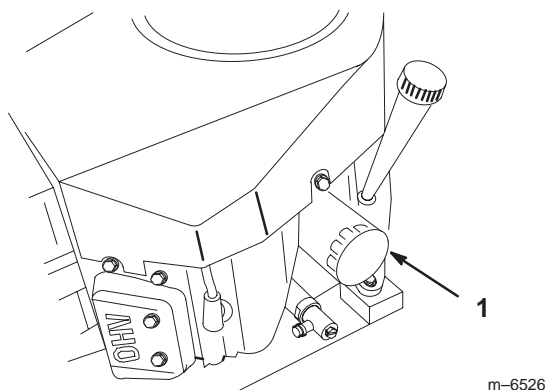

Figure 22
2. Remove the old filter (Fig. 22).
4. Install the replacement oil filter to the adapter. Turn the oil filter clockwise until the rubber gasket contacts the filter adapter, then tighten the filter an additional 3/4 turn (Fig. 22).